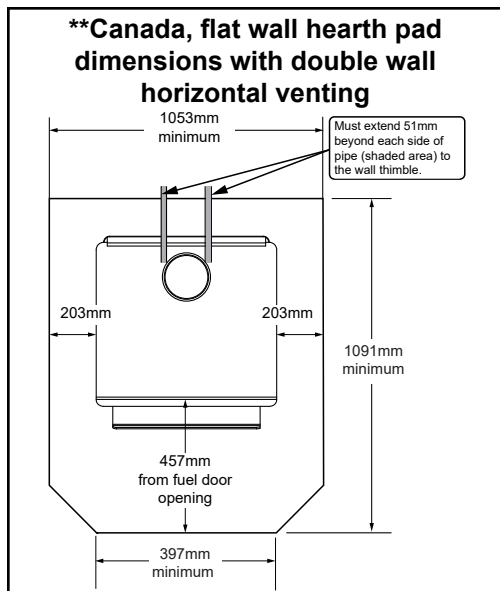

Figure 9.2 - **This dimension will vary depending installation.
In Canada, similar floor protection must be provided 18 inches (457mm) in front and 8 inches (203mm) from the sides and rear of the appliance unless the hearth pad is placed against the wall (**Figure 9.2**). Then the clearance may be reduced using double wall pipe and the **Clearance to Combustibles** table listed on page 10.
***Exception:** Non-combustible floor protector must extend beneath the flue pipe when installed with horizontal venting and extend 2 inches (51mm) beyond each side (**Figure 9.2**).